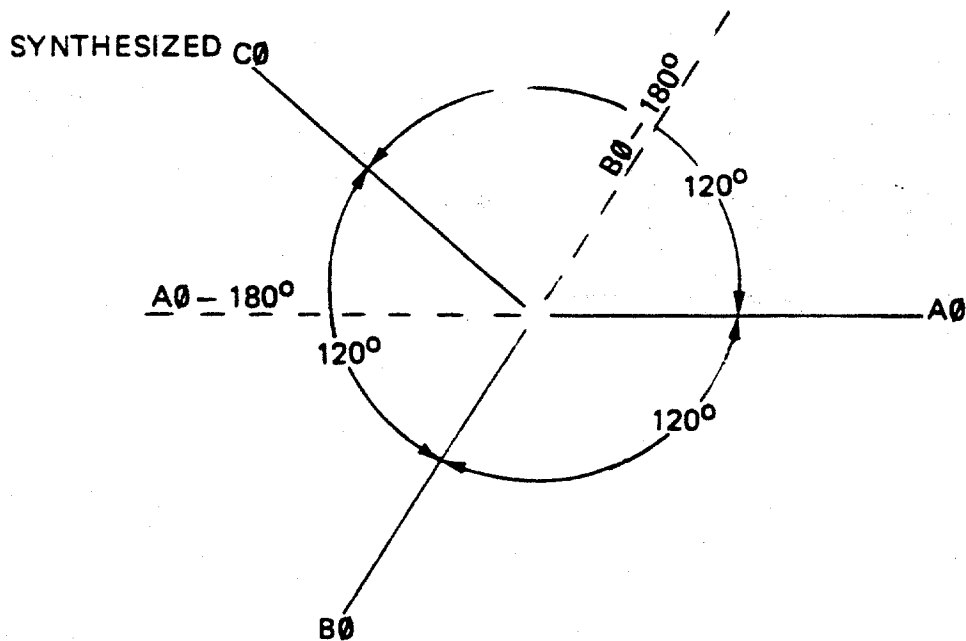

Figure 2-1. 2 Amplifier 3Ø Wye Configuration
2.4.2 With those single-phase Elgar power sources which have dual output windings, two power sources may be interconnected for three-phase wye operation. One of the output windings on each of the A-phase and B-phase sources is used for the A-phase and B-phase outputs. The C-phase output is synthesized by inverse series connection of the remaining two windings, as diagrammed in Figure 2-1.